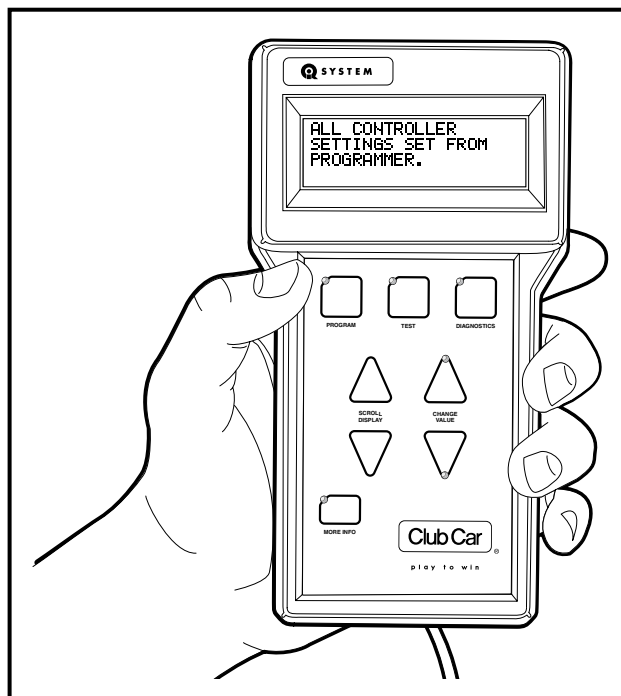

Figure 19 IQDM Settings Transferred to Controller
10. When the IQDM is finished transferring the speed controller settings, a confirmation message is displayed (**Figure 19**).